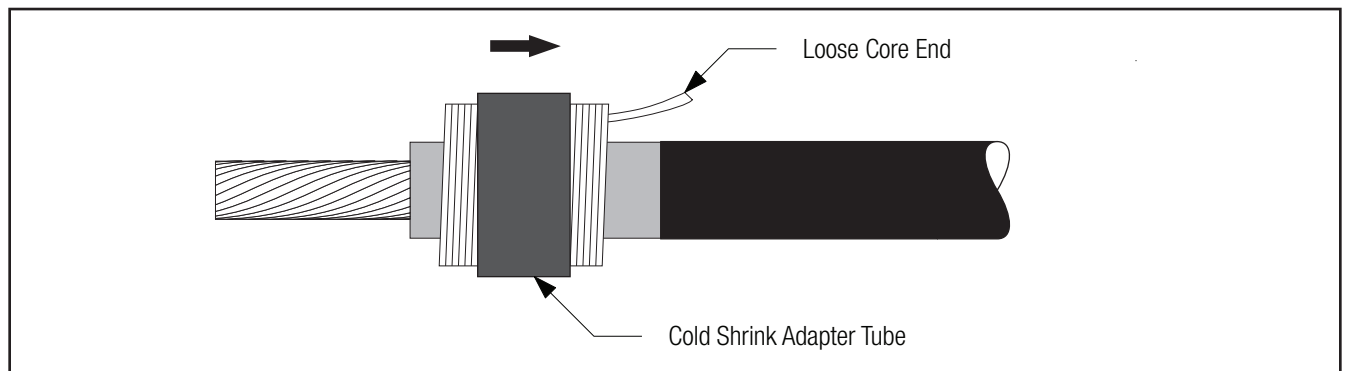

Figure 15
**For 2/0 through 4/0 AWG copper connectors or connectors with an O.D. between 0.50–0.64" (12,7–16,3 mm): Slide the cold shrink adapter tube with the RED CORE onto the insulation with the loose core ribbon end going on first, away from the cable end (Figure 15).**